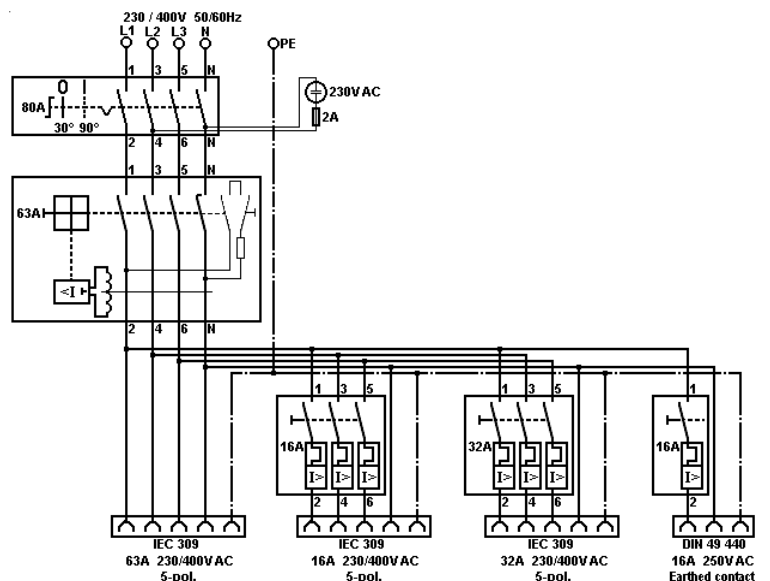

Fig. 1
*The safety switch of the maintenance and repair supply socket distribution shall be safeguarded against unauthorized use by means of a padlock (padlock shackle Ø = 4-6 mm, see page 10, Fig. 1).*
***The safety switch of the maintenance and repair supply socket distribution shall be safeguarded against unauthorized use by means of a padlock (padlock shackle  $\varnothing = 4-6$  mm, Fig. 1).***
The CEE flange sockets a padlock (shackle  $\varnothing = 5$ mm) can be fitted to the bayonet ring (see Fig 1, page 10) as an additional safeguard against unauthorized use.
To prevent unauthorized switching, the switch can be locked in the "OFF" position by means of 3 padlocks, see Fig. 1 (shackle diameter of padlocks 4-6 mm).